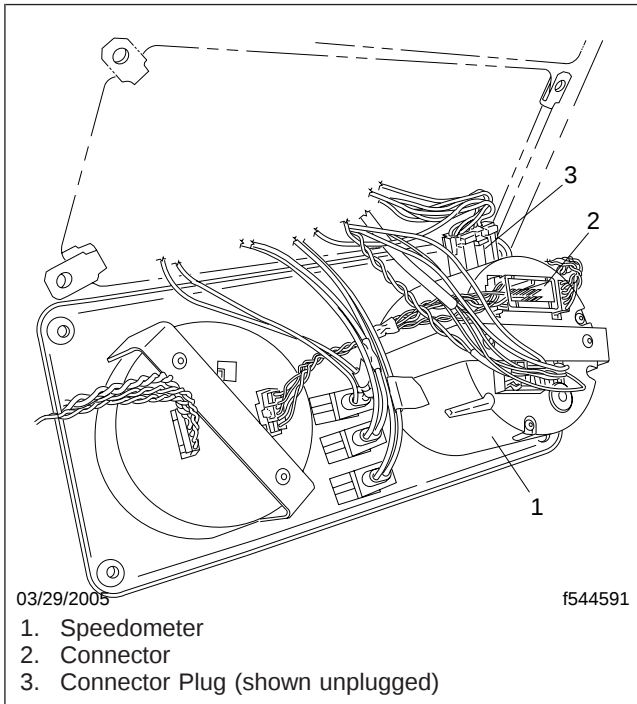

Fig. 1, Rear of Speedometer and Tachometer
3. Remove the fasteners that secure the speedometer and tachometer panel, and tilt it forward to access the rear of the speedometer. See Fig. 1.